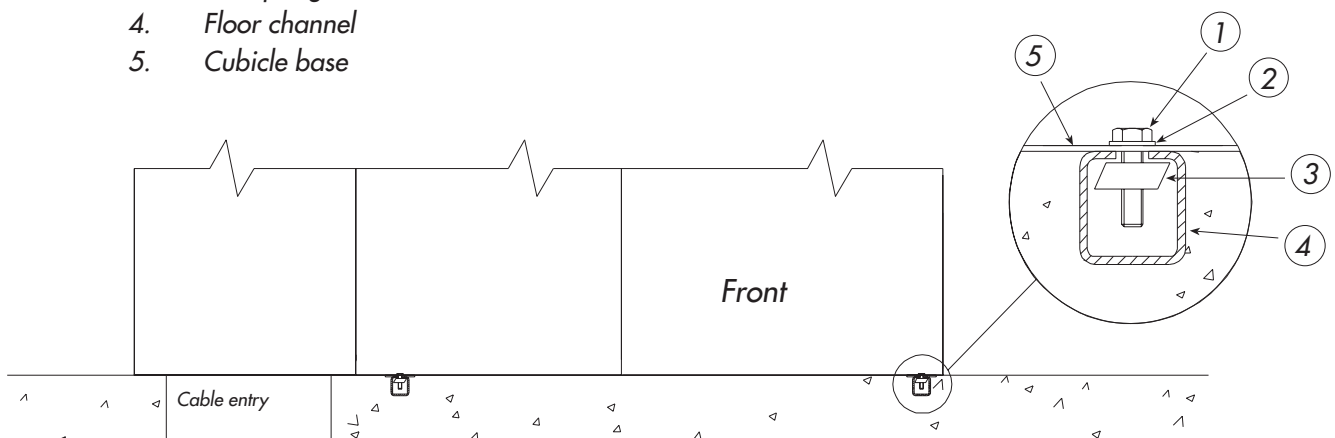

Figure 2.17 Fixing to floor with floor channels
- Secure the cubicles to the floor using M8 fixing bolts (sleeve anchor type) trough the cubicle base plate into the fixing holes, refer to figure 2.17
- Secure the cubicles to the floor channels with M8 fixing bolts trough the base plate into channel fixing nuts, refer to figure 2.17